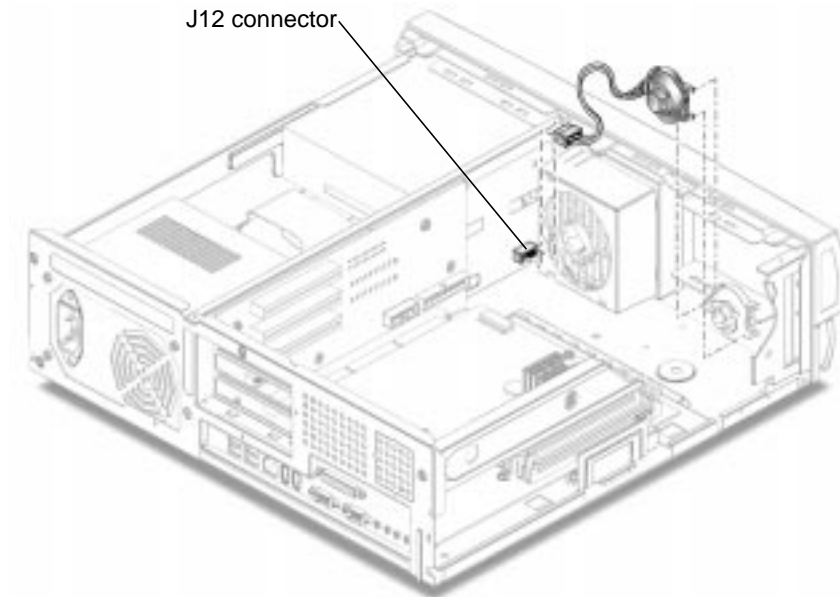

FIGURE 6-9 Removing and Replacing the Speaker Assembly
1. **Position the speaker assembly into the chassis (FIGURE 6-9).**